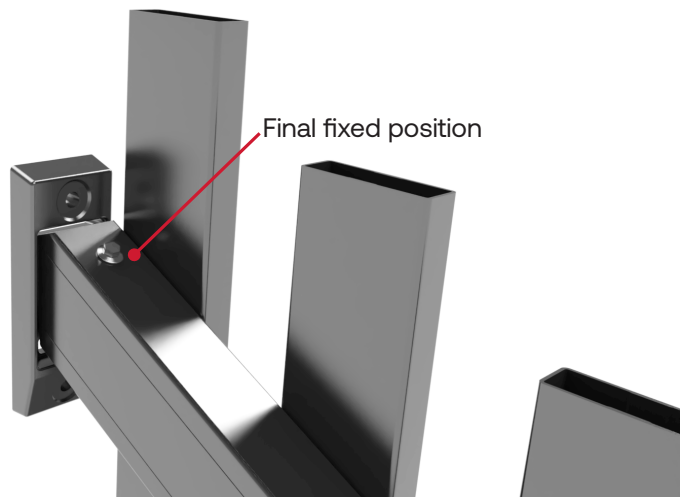

Fig. 10
3. Fasten the rail to the bracket to fix the panel in its final position. *Fig. 10*